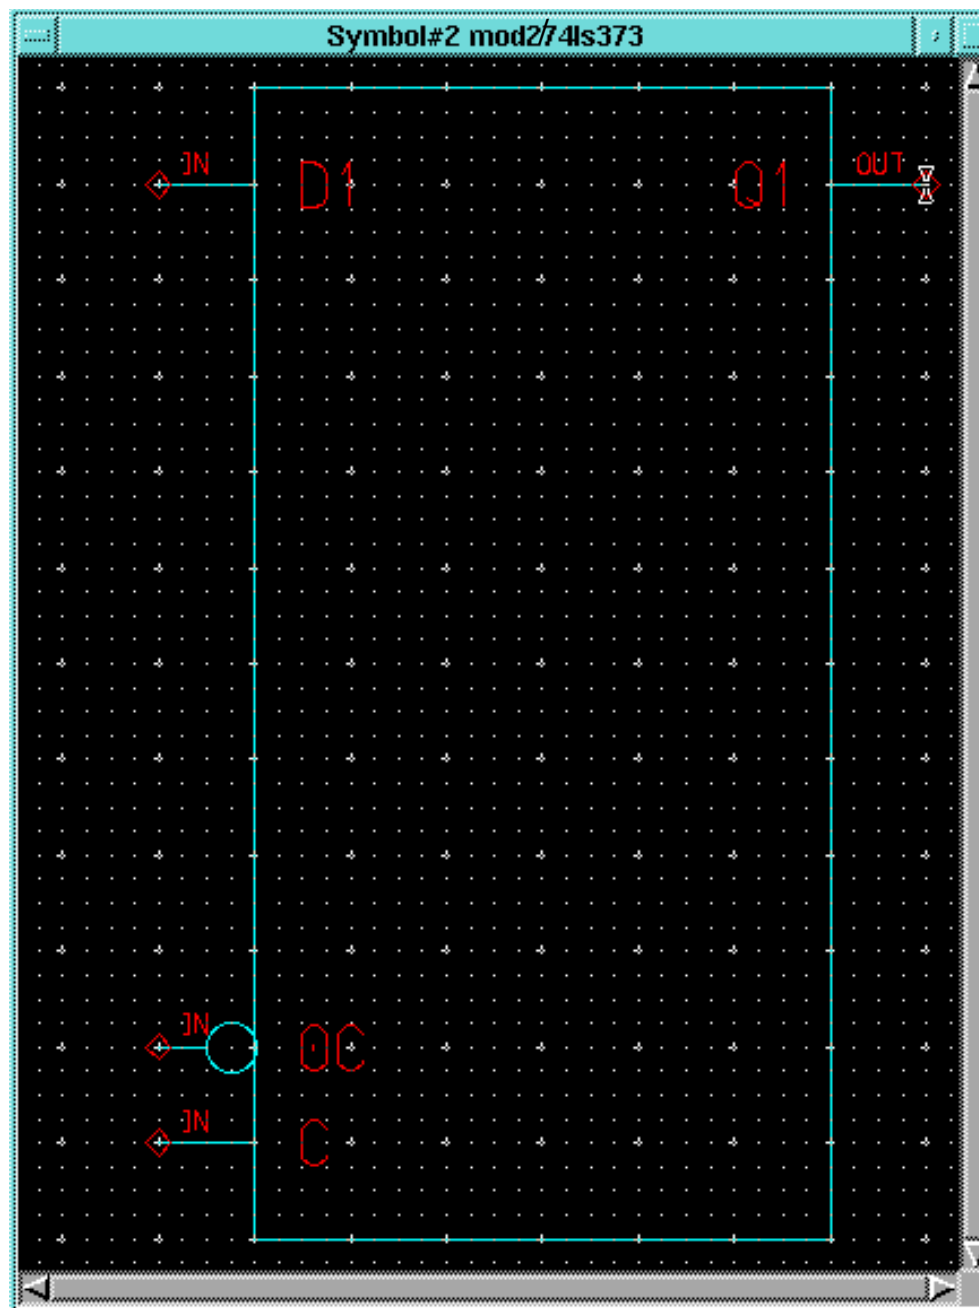

Figure 1-42. Adding Symbol Pins
Refer to Figure 1-42 for the steps in this subsection.
4. When you are prompted for pin locations, click the Select mouse button on the pin grid points for pins D1 and C, respectively, as shown in Figure 1-42 on page 1-53.
8. Click on the **Symbol_Draw Palette > Move** icon. Move the selected text so that it lines up with the **C** and **D1** pin names as shown in Figure 1-42 on page 1-53.